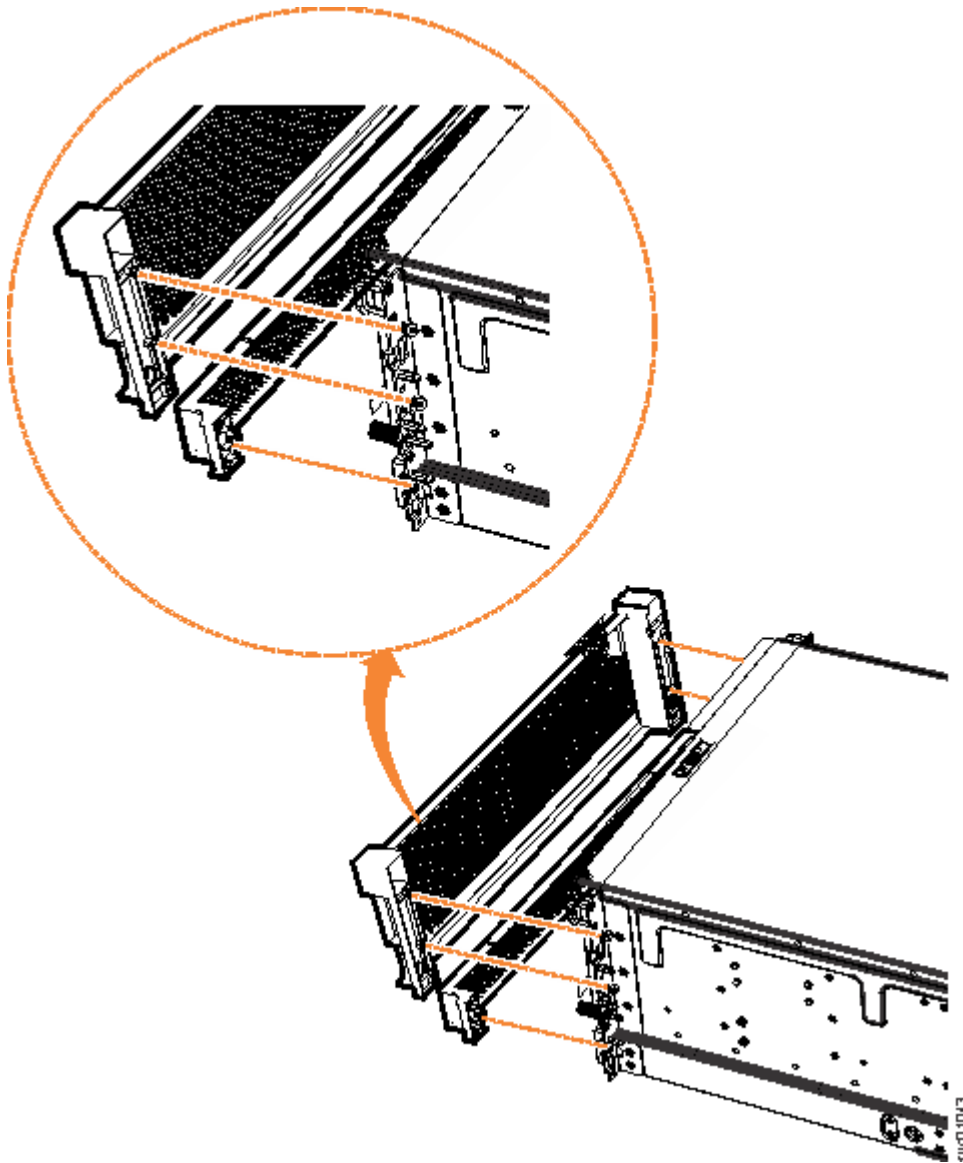

Figure 127. Remove fascia components from the expansion enclosure
2. Remove the front fascia by removing the two screws that attach the fascia to the flange on each side of the chassis, as shown in Figure 127 on page 172.
3. Gently pull on each side of the PSU fascia to remove it from the chassis, as shown in Figure 127 on page 172. The PSU fascia disengages from the slot and pin that connect it to each side of the chassis.